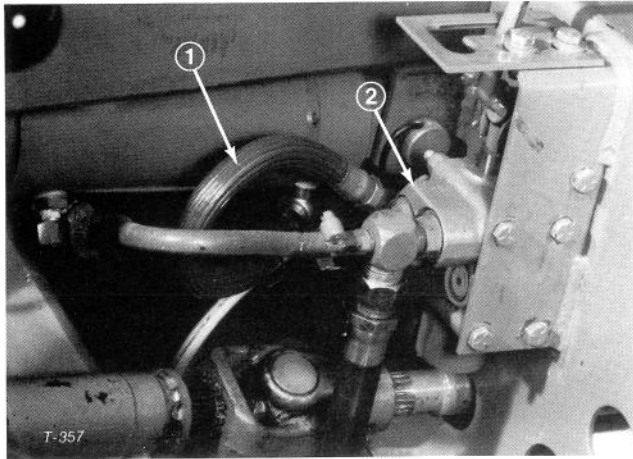

Figure 76
5. Disconnect cylinder hose from 90° fitting on lift valve (Fig. 76). Keep end of hose higher than cylinder to prevent oil from draining out the hose. Plug end of the hose.